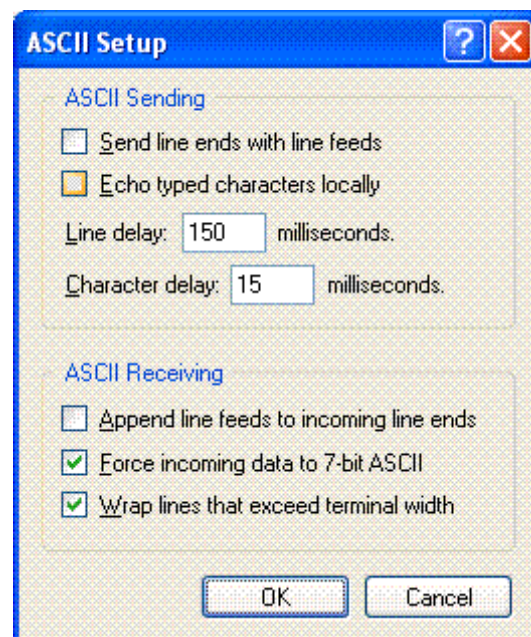

Figure 4 - ASCII Setup
7. In the *ASCII Setup* Dialog (see Figure 4), under *ASCII Sending*, ensure that *Send line ends with line feeds* and *Echo typed characters locally* are both unchecked. Enter **150** in the *Line delay* edit box and **15** for the *Character delay*. For *ASCII Receiving*, ensure that *Force incoming data to 7-bit ASCII* is checked. Click *OK* here, and then click *OK* again in the *elf2k Properties* window.